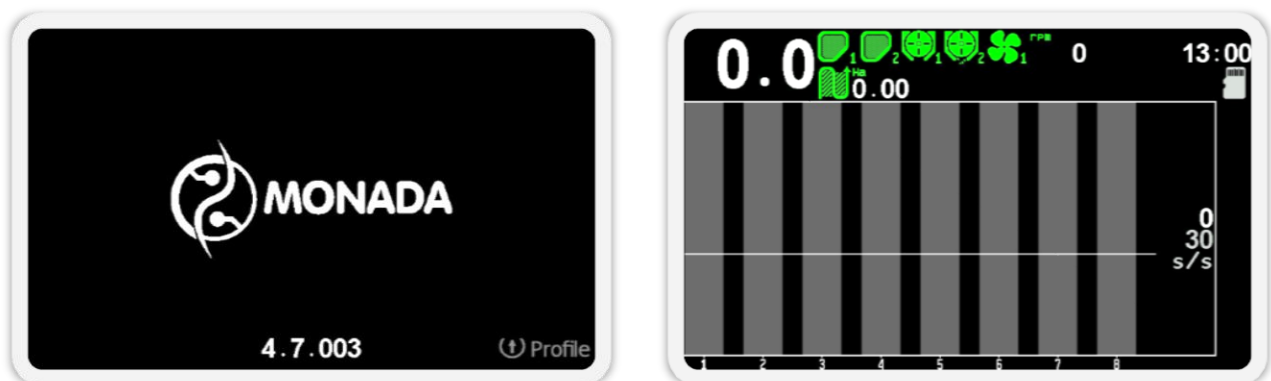

Figure 55 The loading screen is on the left and the main screen is on the right
2. Turn on the operator panel. Make sure the power indicator is green (see Figure 4, p.6) and the operator panel display shows the loading screen with the logo ³⁸ (see Figure 55 on the left). After a while “Main screen” will appear on the display³⁹ (see Figure 55 on the right).